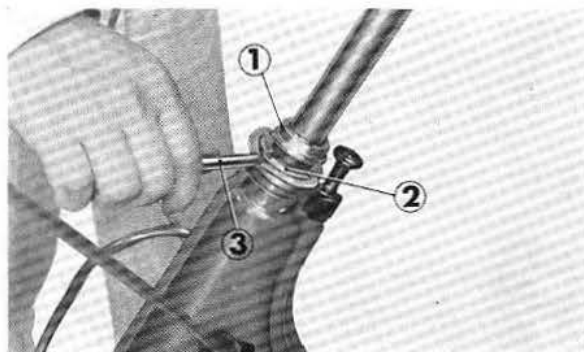

Fig. 4-15 ① Steering stem nut ② Steering top cone race ③ Special tool spanner
4. Subsequent assembly operation shall be in the reverse order of disassembly procedure. (Fig. 4-15)